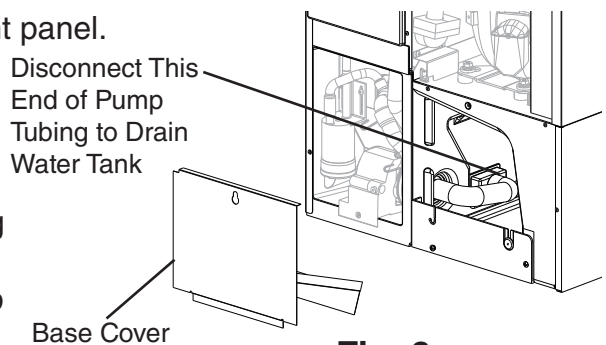

Fig. 6
- a) On KM-901M_J, remove the base cover, then disconnect one end of the pump tubing to drain the water tank. See Fig. 6. After the water tank has drained, reconnect the pump tubing.